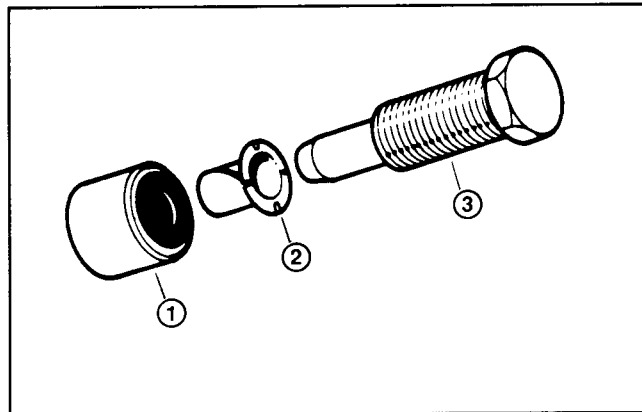

Figure 28
8. Check size of hole in bedbar end bushings every time bedbar is removed. Insert flange bushing into rubber bushing (Fig. 28). Insert clean shoulder bolt into flange bushing/rubber bushing assembly. If bolt slides easily into bushing, replace all four bedbar bushings. (See Bedbar Bushing Replacement in this section of the book.)